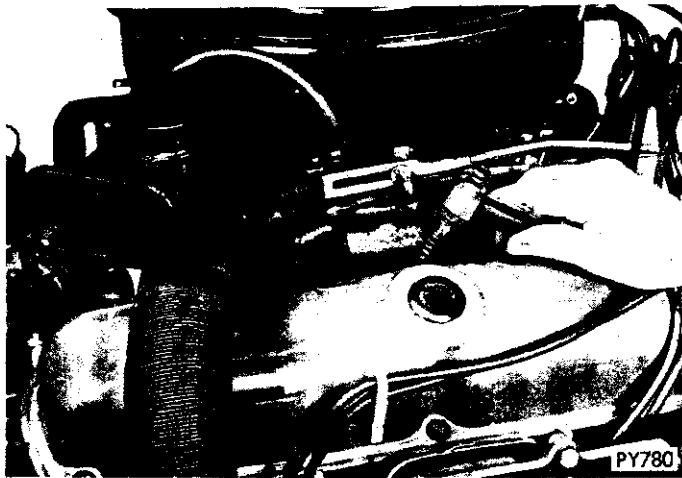

Fig. 29—Shaking Ventilator Valve
1. Remove ventilator valve from rocker cover and shake (Fig. 29).